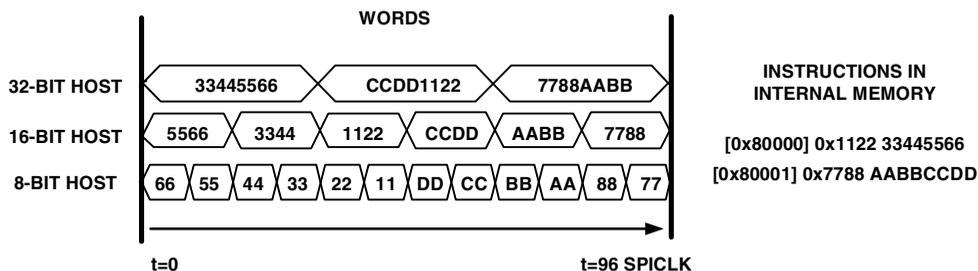

Figure 14-11. Instruction Packing for Different Hosts
2. Writing the read command `0x03` and address `0x00` to the slave device as shown in Figure 14-11.
The SPI DMA channel is used when downloading the boot kernel information to the processor. At reset, the DMA parameter registers are initialized to the values listed in Figure 14-11.
As shown in Figure 14-11, two words shift into the 32-bit receive shift register (`RXSPI`) before a DMA transfer to internal memory occurs for 16-bit SPI devices. For 8-bit SPI devices, four words shift into the 32-bit receive shift register before a DMA transfer to internal memory occurs.
Figure 14-11 shows how a pair of instructions are packed for SPI booting using a 32-, 16-, and an 8-bit device. These two instructions are received as three 32-bit words.